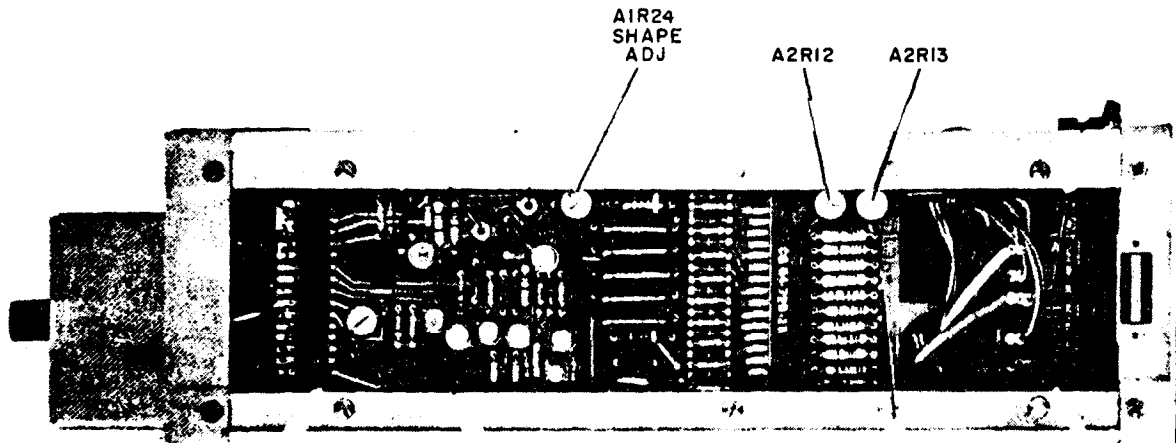

Figure 5-1. Typical RF plug-in unit, adjustment locations.
- (1) Turn sweep oscillator START/CW control to setting listed in table 5-2. Adjust UUT adjustment listed (fig. 5-1) for specified electronic counter indication.
- (2) Adjustments interact. Repeat adjustment step (1) until no further adjustment is required.
- (3) Repeat performance check.